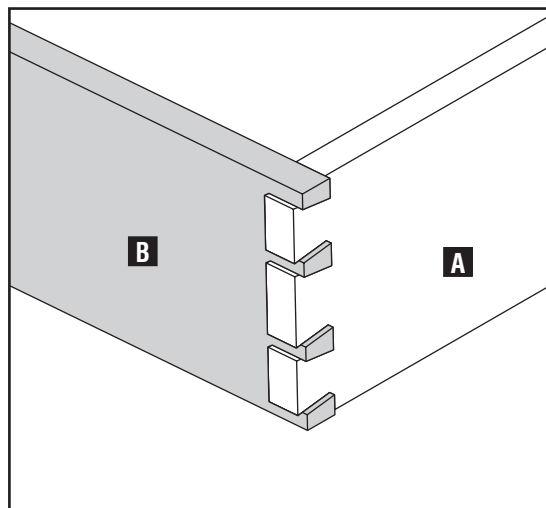

Fig. D16
**PROUD:** Looking at the tailboard (A) Fig. D16, if the end grain is proud (sticking out above the other board as shown in Fig. D16) then the cut on the tailboard needs to be shallower. To correct, decrease the depth of cut of the router bit.
**PROUD:** Looking at the pinboard (B) Fig. D16, if the end grain is proud (sticking out above the other board as shown in Fig. D16) then the cut on the tailboard needs to be shallower. To correct, decrease the depth of cut of the router bit.